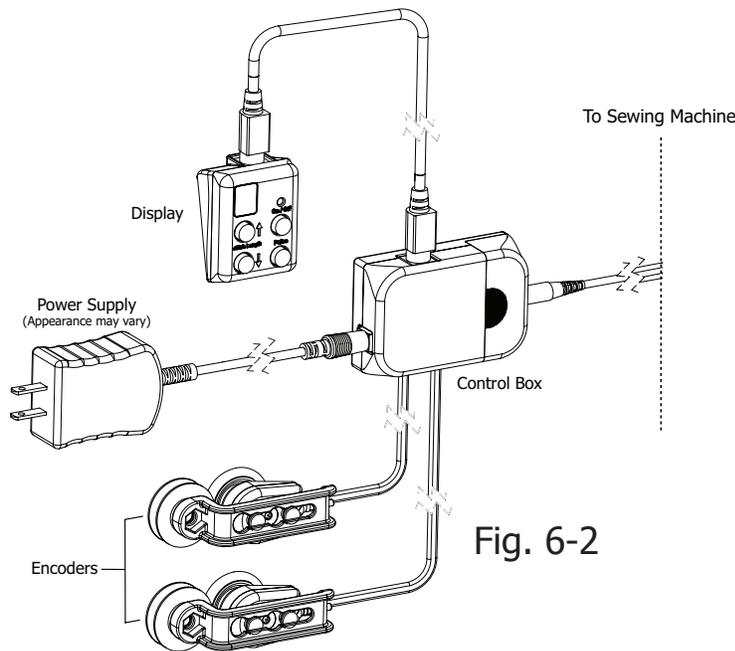

Fig. 6-2
**Step 6-1:** Attach the Display Wire (See Fig. 6-1, and Fig 6-2) to the Display Console, and to the Control Box. Be sure to line up the pins in the connectors to avoid bending them. Secure the wire to the carriage to keep the wire organized.